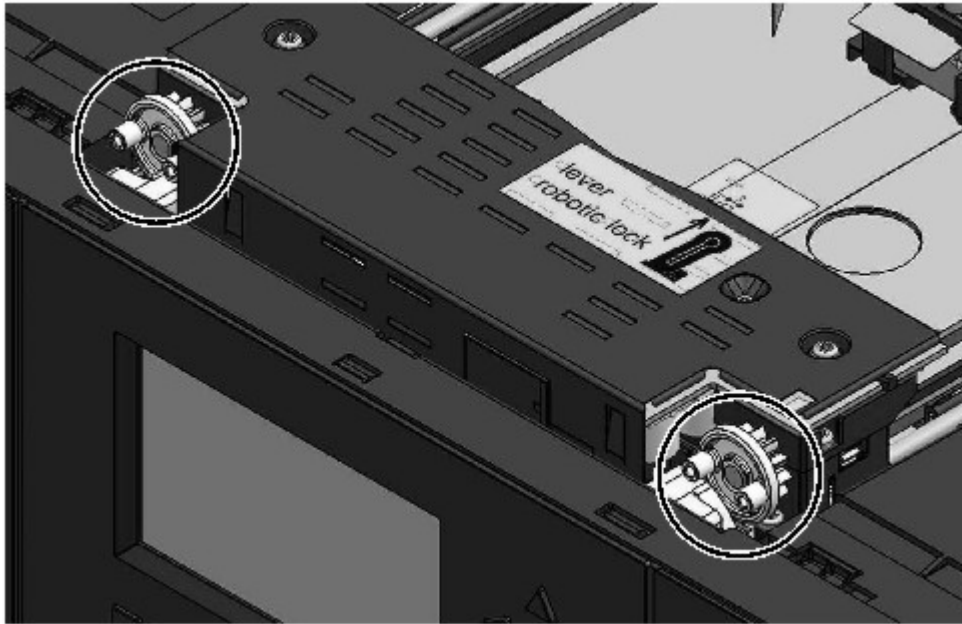

Figure 78. Pins are aligned horizontally
1. Each corner of the accessor has a gear with two protruding pins. Rotate one of the gears on the accessor so that the two pins are aligned horizontally. See Figure 78 on page 130